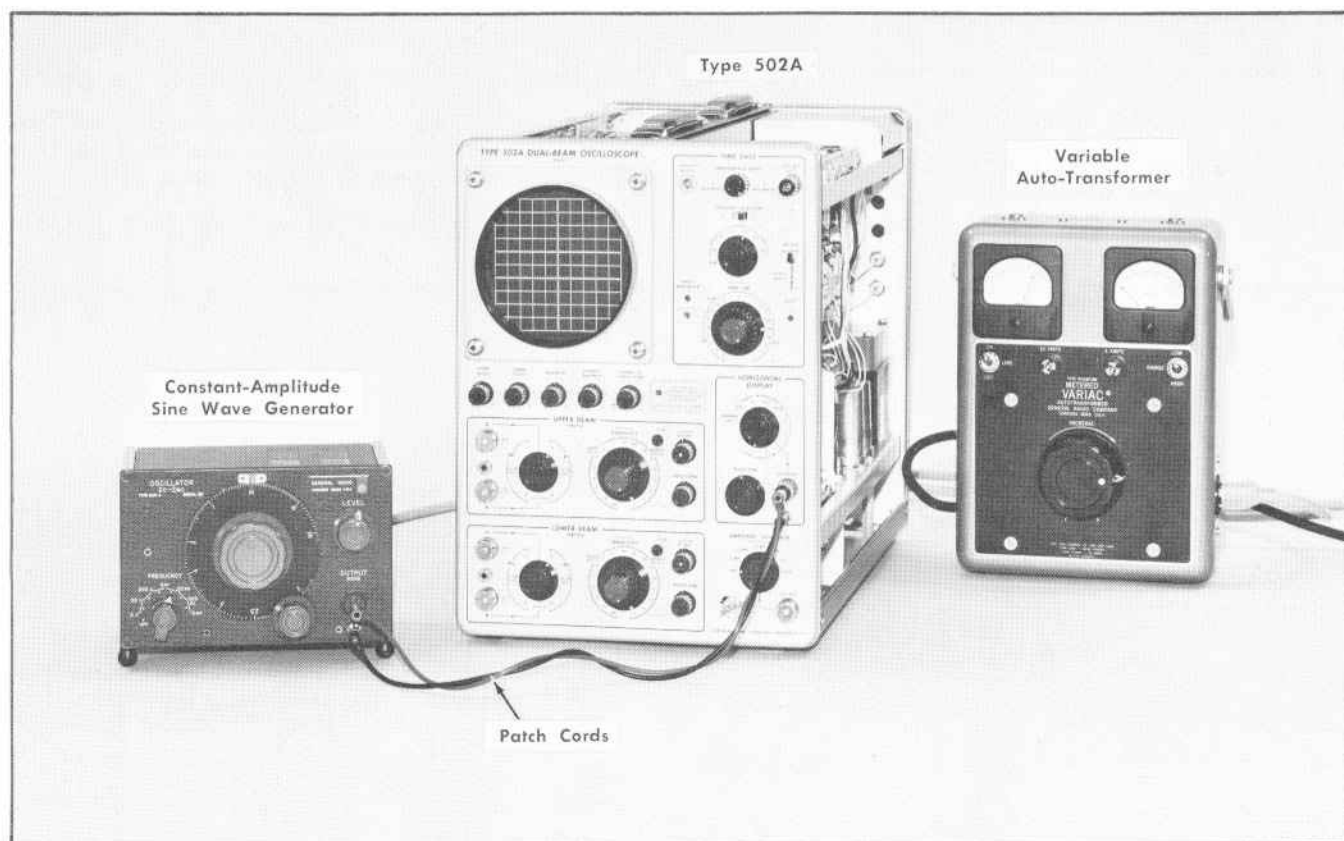

Fig. 6-17. Test equipment setup for checking External Horizontal bandwidth (step 17).
- Connect the test equipment as shown in Fig. 6-17.